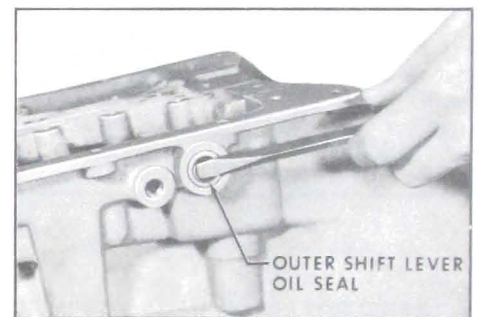

Figure 5-165
7. Examine outer shift lever oil seal. If nicked, torn or worn, replace seal. See Figure 5-165.